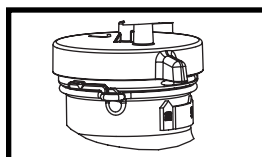

Figure 4
- Rotate indicator on cap to the "On" position to apply soap (Figure 4).